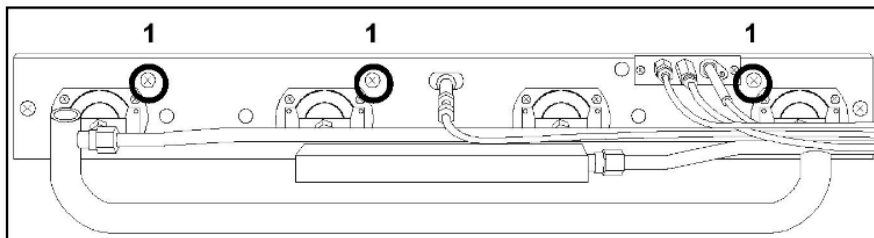

FIG.17 (Substitution interignition burner)
- Unscrew the 3 screws that hold the burner support in place (**FIG.17-Ref.1**);